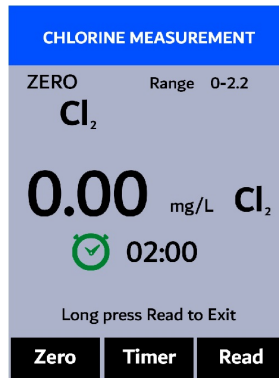

Figure 39.
5. Press **Zero** (  ). **ZERO** will appear on the top-left corner of the display (Figure 39).